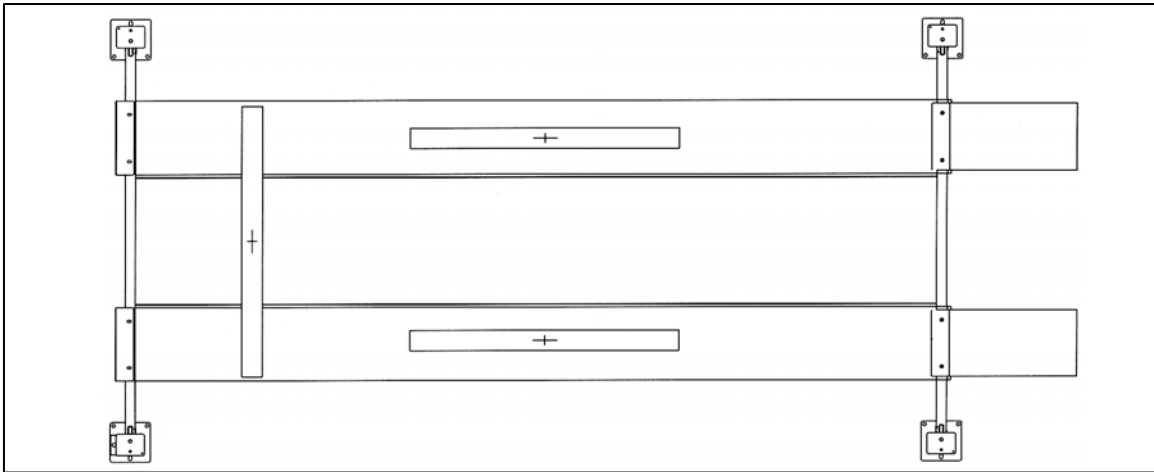

Figure 12. Deck leveling
- Using a 4' level, check the level of the decks front to rear and side to side as shown in Figure 12.
- Adjust the cable lengths by tightening or loosening the two (2) 7/8"-14UNF hex nuts attached to each cable at the tower top plate to raise or lower each corner.
- When flush with the safety shoe, tighten the two (2) 5/8"-11 UNC hex nuts at the top of each safety ladder, and the one (1) 5/8"-11 UNC hex nut under the tower top plate.